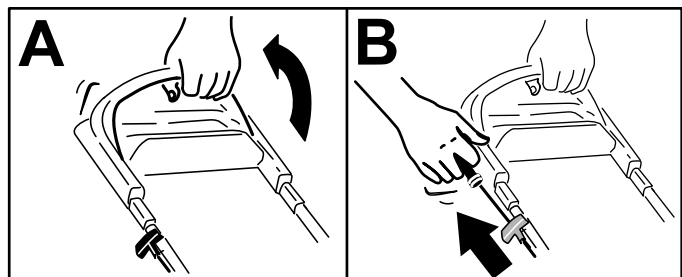

Figure 14
1. Hold the blade-control bar against the handle (A of Figure 14).
2. Pull the recoil-start handle lightly until you feel resistance, then pull it sharply, and allow it to return to the rope guide on the handle slowly (B of Figure 14).